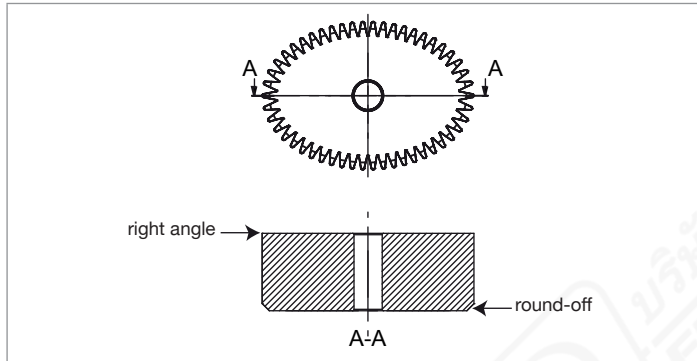

Fig. 8 Cross-section of an oval rotor
- Set the radius of curvature present on the periphery of the oval rotors towards the bottom of the rotor housing (see Fig. 8).